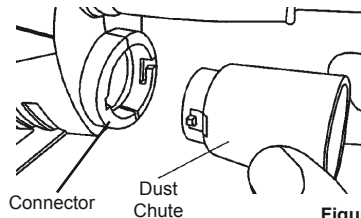

Figure 5
2. To fasten the Dust Chute (sold separately) in place, align the pins on Dust Chute with slots in Connector. Push Dust Chute in and turn clockwise to lock. See Figure 5, below.